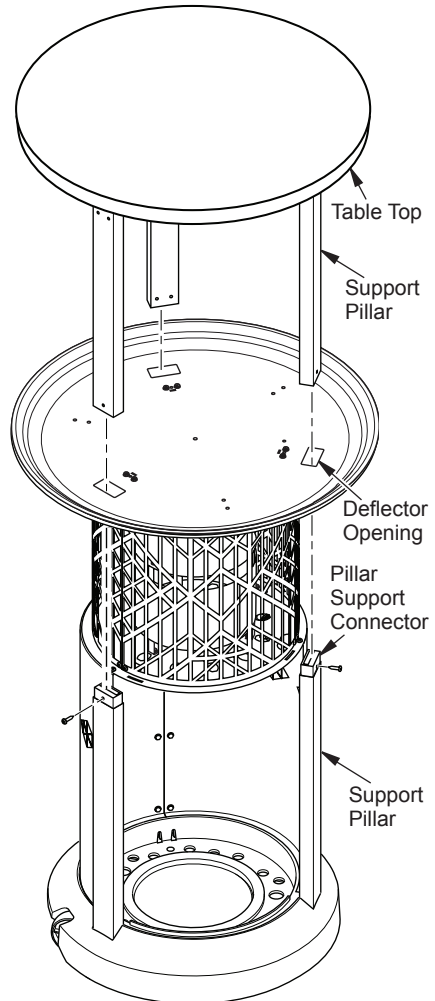

Figure 10 - Table Top Installation
- Turn table support assembly right side up. Slide support pillars through openings in deflector assembly (see Figure 10). Position top support pillars over pillar support connectors. Secure each set with 1 screw (C) each (see Figure 10).